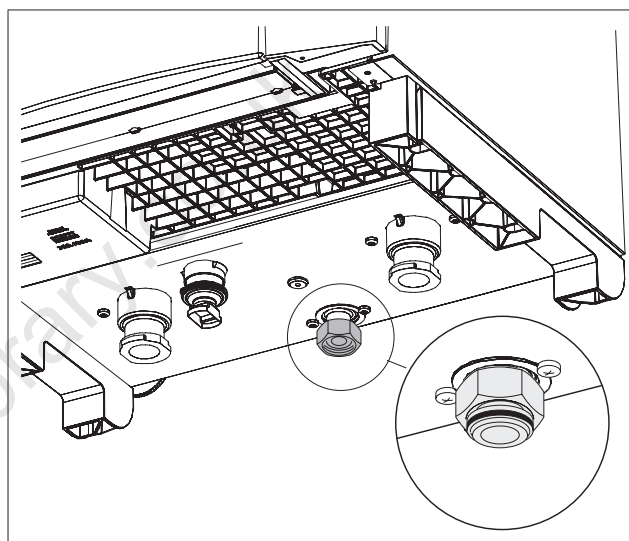

fig. 12 Rubber seal
- Make sure that the factory-fitted flat rubber seal is located in the threaded connection (boiler side) (fig. 12, see detailed picture).